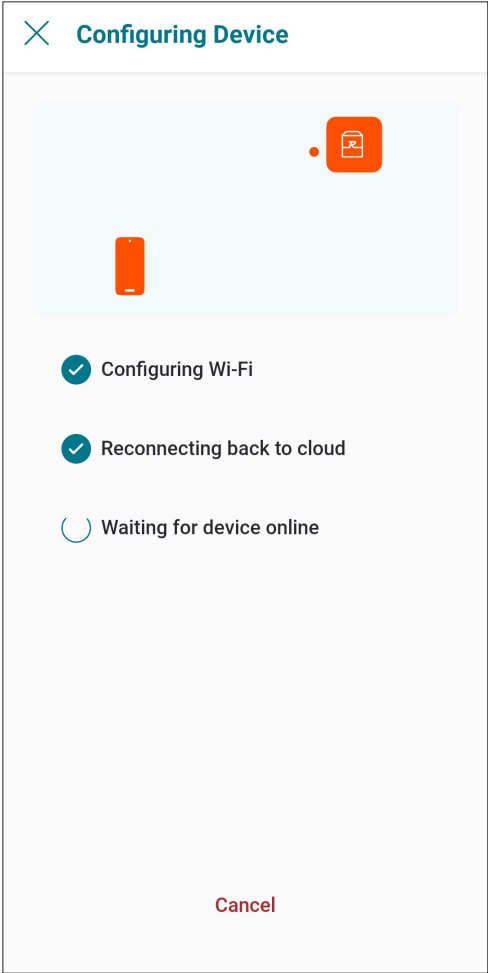

Figure 86. Configuring Device
- Raymote app will provide the Wi-Fi credentials to your unit. This process may take a few seconds. See **Figure 86**.